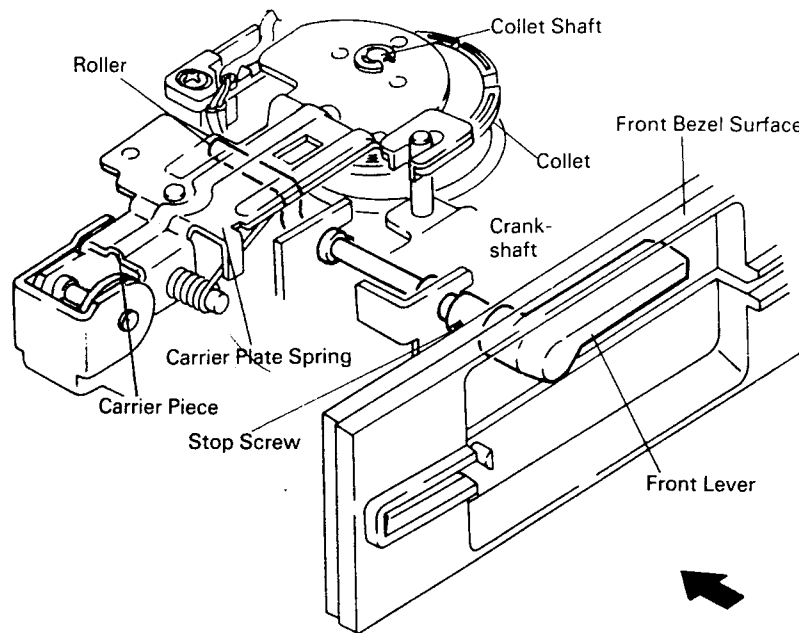

Fig. 4.11.1
- 1) When attaching the front lever, push it in the direction shown in Fig. 4.11.1 and secure with the stop screw.